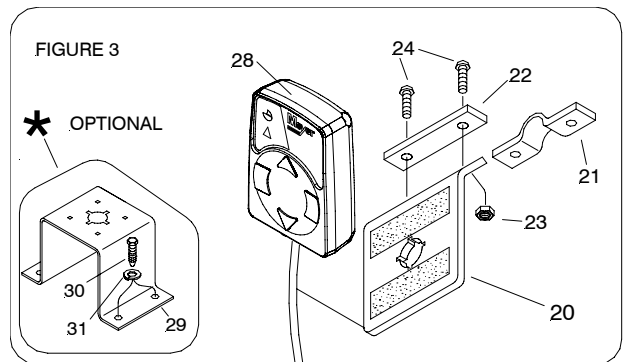

Figure 3
- F. Install Male Plug (12) through the vehicle grill.
- G. Choose a convenient location for the control switch. If the desired location is the dashboard, install Bracket (20) by drilling 2 holes in the dashboard and secure using Round Head Machine Screws (24) and Locknuts (23). Install Backup Plate (22) behind dash for added stiffness. See Figure 3. Also apply Danger Decal to dashboard.
- H. To mount control to shift lever, use Bracket (20), Clamp Plate (21), Round Head Machine Screws (24) and locknuts (23). See Figure 3.